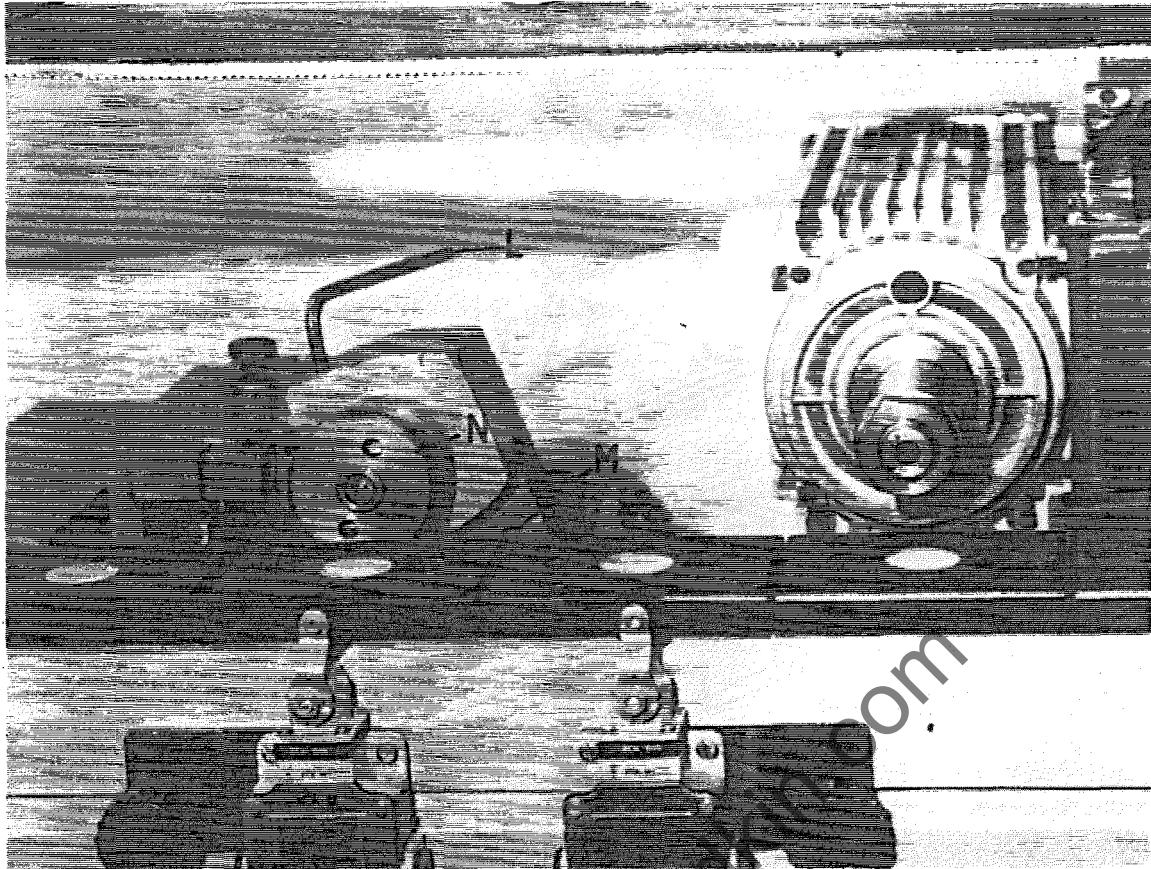

FIG. 50
a) Loosen countersunk socket capscrew with allen key "L" (supplied) FIG.50.
- a) Loosen countersunk socket capscrew with allen key "L" (supplied) FIG.50.